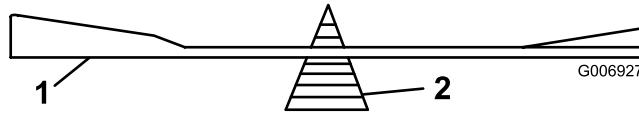

Figure 35
2. Check the balance of each blade by putting it on a blade balancer (Figure 35). If the blade stays in a horizontal position, the blade is balanced and can be used. If the blade is not balanced, file some metal off of the back side of the blade. Repeat this step until the blade is balanced.